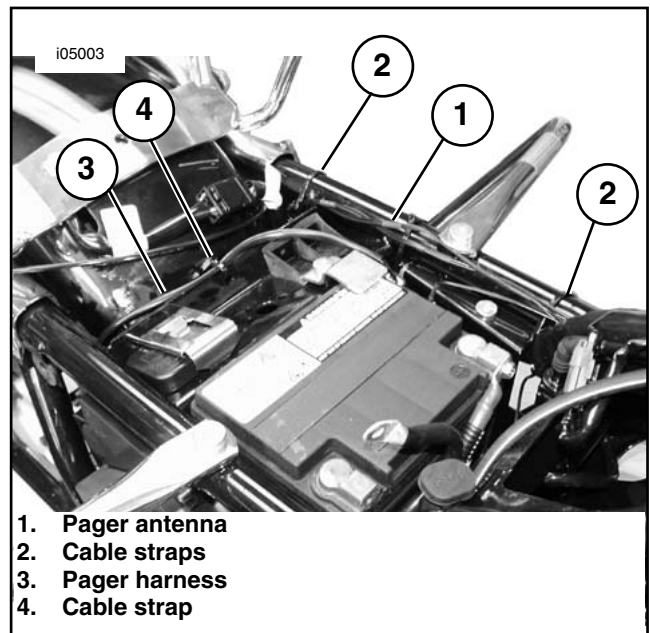

Figure 21. Secure Harness and Antenna to Frame
19. See Figure 21. Route the pager antenna (1) along the left frame tube, and secure using cable straps (2) as needed.